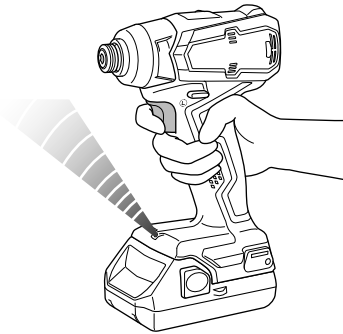

Fig. 12
10. LED light warning signals (Fig. 12)